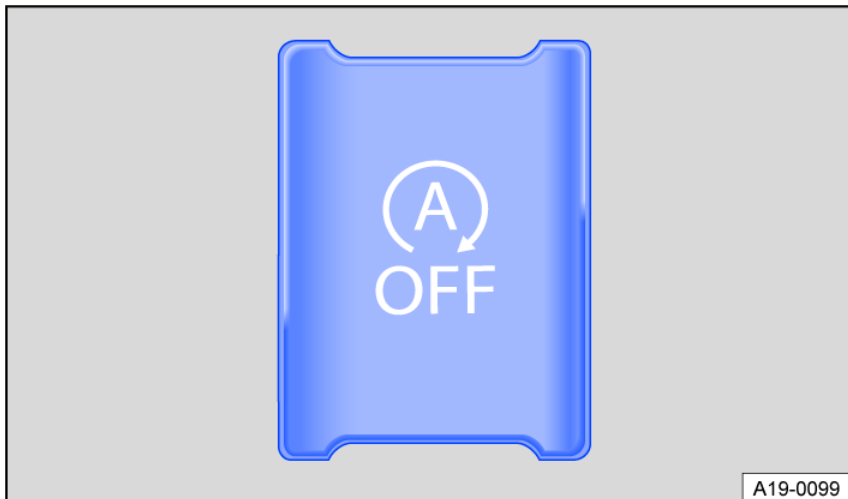

Fig. 99 In the lower section of the center console: Button for the start-stop system.
- Press the  button on the center console to manually deactivate the system. When the start-stop system is deactivated, the indicator light on the button comes on fig. 99.
- Press the  button on the center console again to manually activate the system again fig. 99.